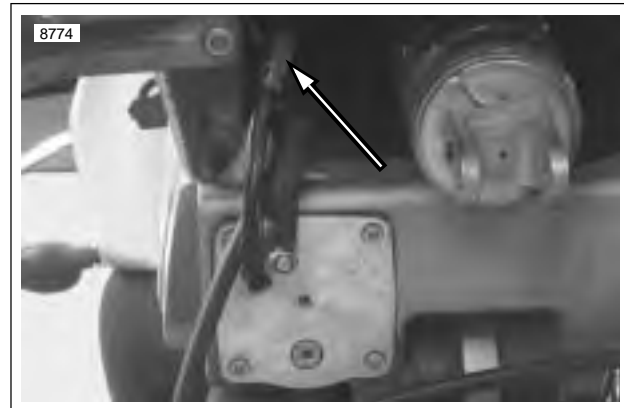

Figure 4-210. Fuel Pump connector [86] (swingarm removed for illustration)
- a. See Figure 4-210. Disconnect the 4-place fuel pump connector [86]. Connector is located on the left side, above the fuel pump.